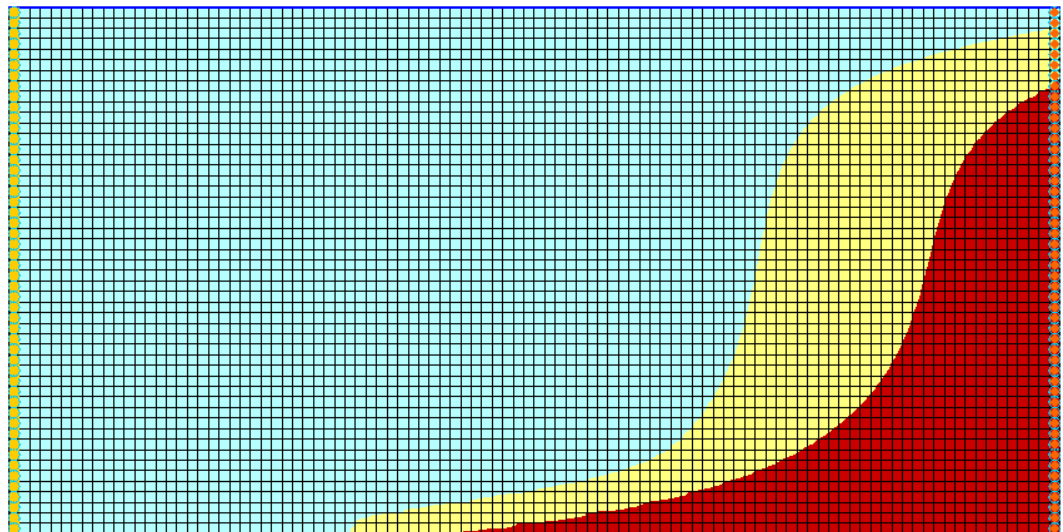

Figure 5 Salt concentration at time step 16 in case2
2. View the same dataset and time step in “ case2 (MT3DMS)” (Figure 5).